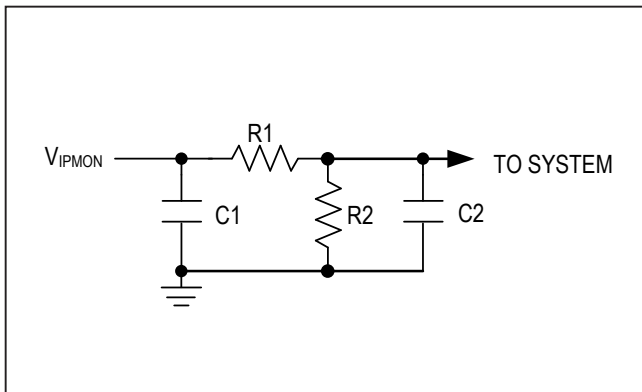

Figure 2. External RC Network to Adjust  $V_{IPMON}$
Adding an RC network at the IPMON output (Figure 2) allows the overall  $V_{IPMON}$  gain (G) to be adjusted per the following equation:
Figure 2 shows an ORing application where a resistive divider connected from IN1 at the  $\overline{PC}$  pin controls the turn-on of the ORing MOSFET, MD2, in the IN2 supply path. When the IN1 supply voltage falls below 4.5V, it turns on the ORing MOSFET, MD2, causing the ORing output to be